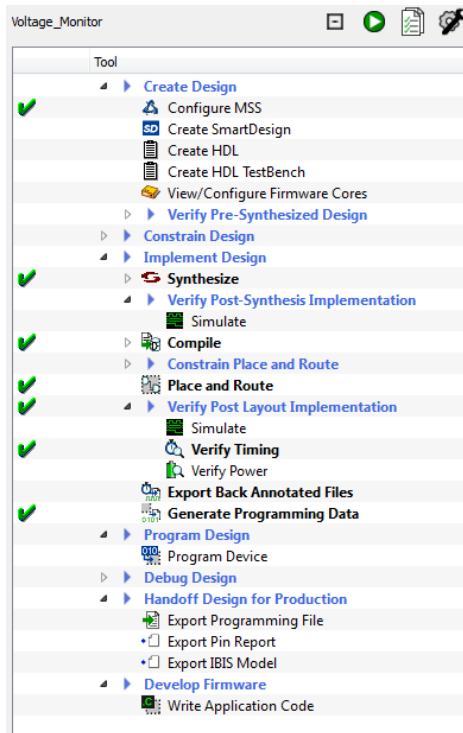

Figure 70 · Design Flow Window After Building the Project
7. The **Design Flow** window looks as shown in Figure 70 · .